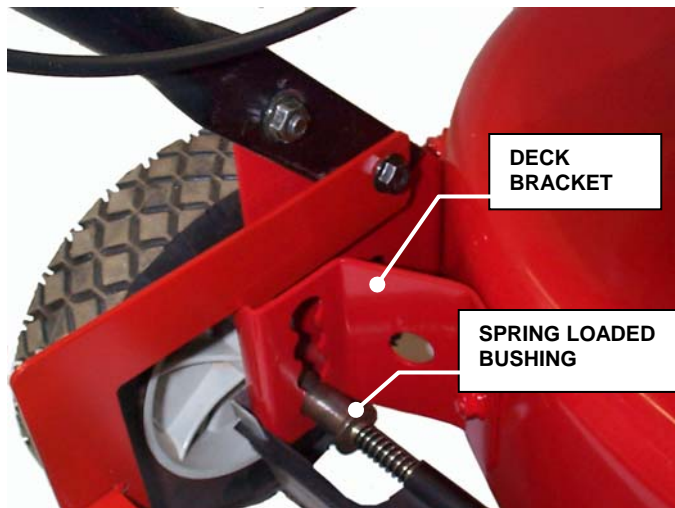

FIGURE 2.6
1. FRONT WHEELS: Reposition the front axle by raising the front wheels off the ground, then pull in the spring loaded bushings until they clear the brackets. Move bushings to the desired height of cut position and release the bushings. See Figure 2.6.
2. REAR WHEELS: Reposition the rear axle by raising the rear wheels off the ground, then pull in the spring loaded bushings until they clear the brackets. Move bushings to the desired height of cut position and release the bushings. Position the rear bushings in to the same notches corresponding with notches for the front wheels to maintain the level of the deck. See Figure 2.6.